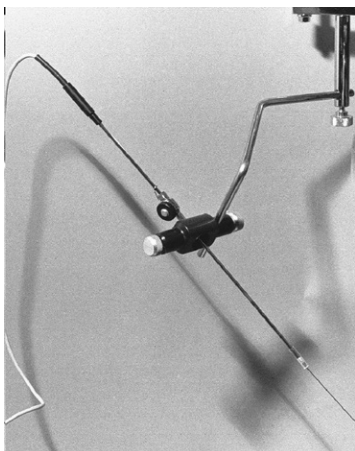

Fig. 42–The offset arm suspends the stimulation electrode.
1. Screw the mounting post to the bottom of the valve tap assembly. Attach the offset arm that suspends the stimulation electrode from the mounting post (Fig. 42).